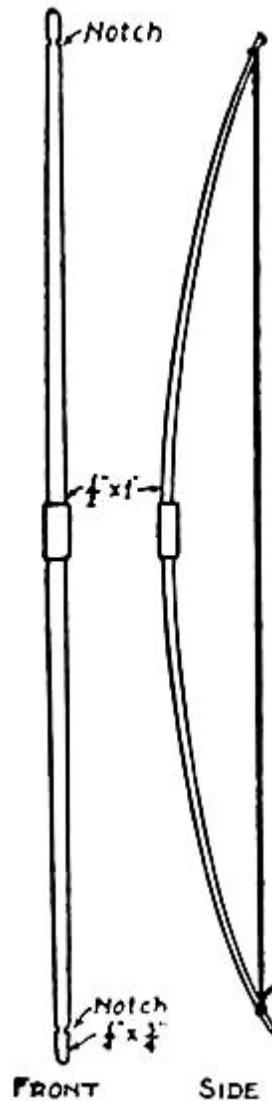

FIG. 241.—A Boy's Bow.
**The Length of the Bow** should be about the height of the person using it. Figure 241 shows a five-foot bow, with the other proportions such as are on makes to be found in the stores. Cut your piece of wood five feet long, and, after placing it in the bench-vise, shape it down with a draw-knife or plane until it is one inch wide by one-half inch thick at the handle and three-quarters of an inch wide by one-quarter inch thick at the ends. The bow can be made round on the